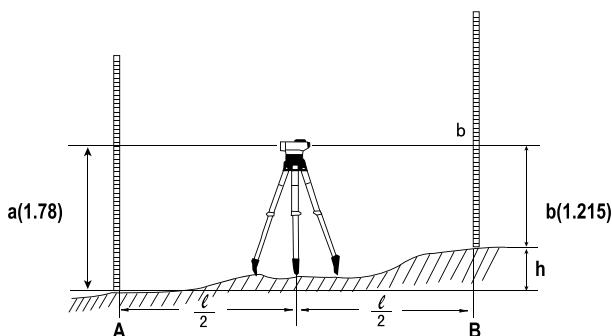

Figure 3
- Put the leveling rods A and B in the vertical position. Place the device between the leveling rods A and B (Fig. 3).
In Figure 3, for example, the height difference is 0.565m. Subtract the value of height B from the value of height A.